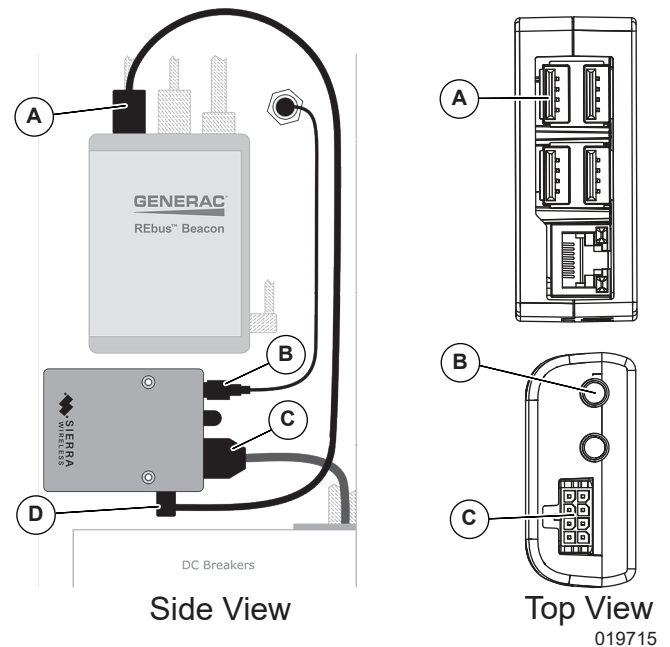

Figure 4. Wiring Diagram
1. See Figure 4. Plug the included USB cable into GL7611 modem's USB micro-B port (D), then plug the other end into Beacon's USB type-A port (A).